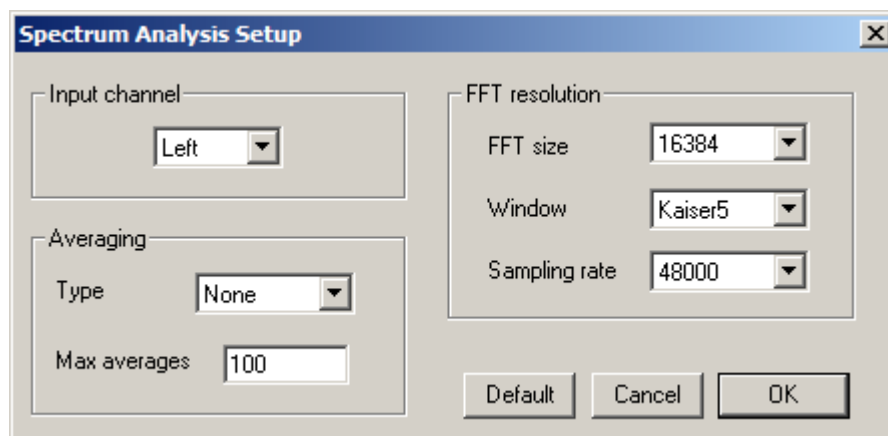

Figure 2.2 The spectrum analysis setup
The same parameters can be set up in a dialog box '**Spectrum Analysis Setup**' shown in Fig. 2.2. (you get it by clicking the menu **Setup->Measurement**) . By using this dialog box you set (1) the preferred input channel, (2) averaging parameters and (3) the FFT resolution.